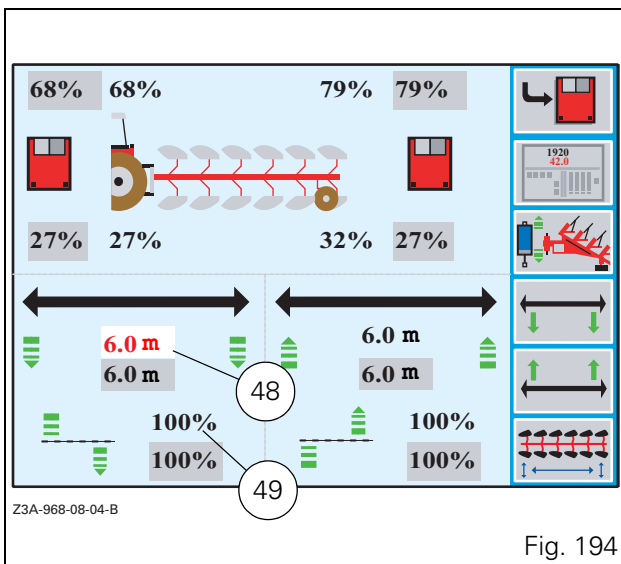

Fig. 194
- Press the key «4 when the window (Fig. 194) is open. The furrow start length is displayed in red (48 Fig. 194).
- Adjust the length X by rotating the encoder and validate by pressing the latter. The length is displayed in black inside the white and grey box, and the linkage furrow start height is displayed in red (49 Fig. 194).
NOTE: To set the depth wheel partial lowering value, first set the furrow start length (48 Fig. 194).
- When the linkage height is displayed in red (49 Fig. 194), adjust the latter by rotating the encoder.